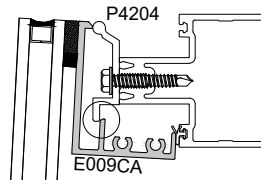

Fig. 43.1
STEP 1: Position the cassette frame at a slight angle to the head frame back member as shown in Fig. 43.1